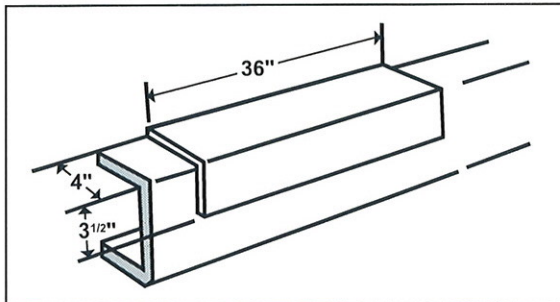

Fig. 1
2. On over-the-frame installations, the angles must have a minimum horizontal leg of four inches and a minimum vertical leg of 3-1/2 inches. (See Fig. 1.)